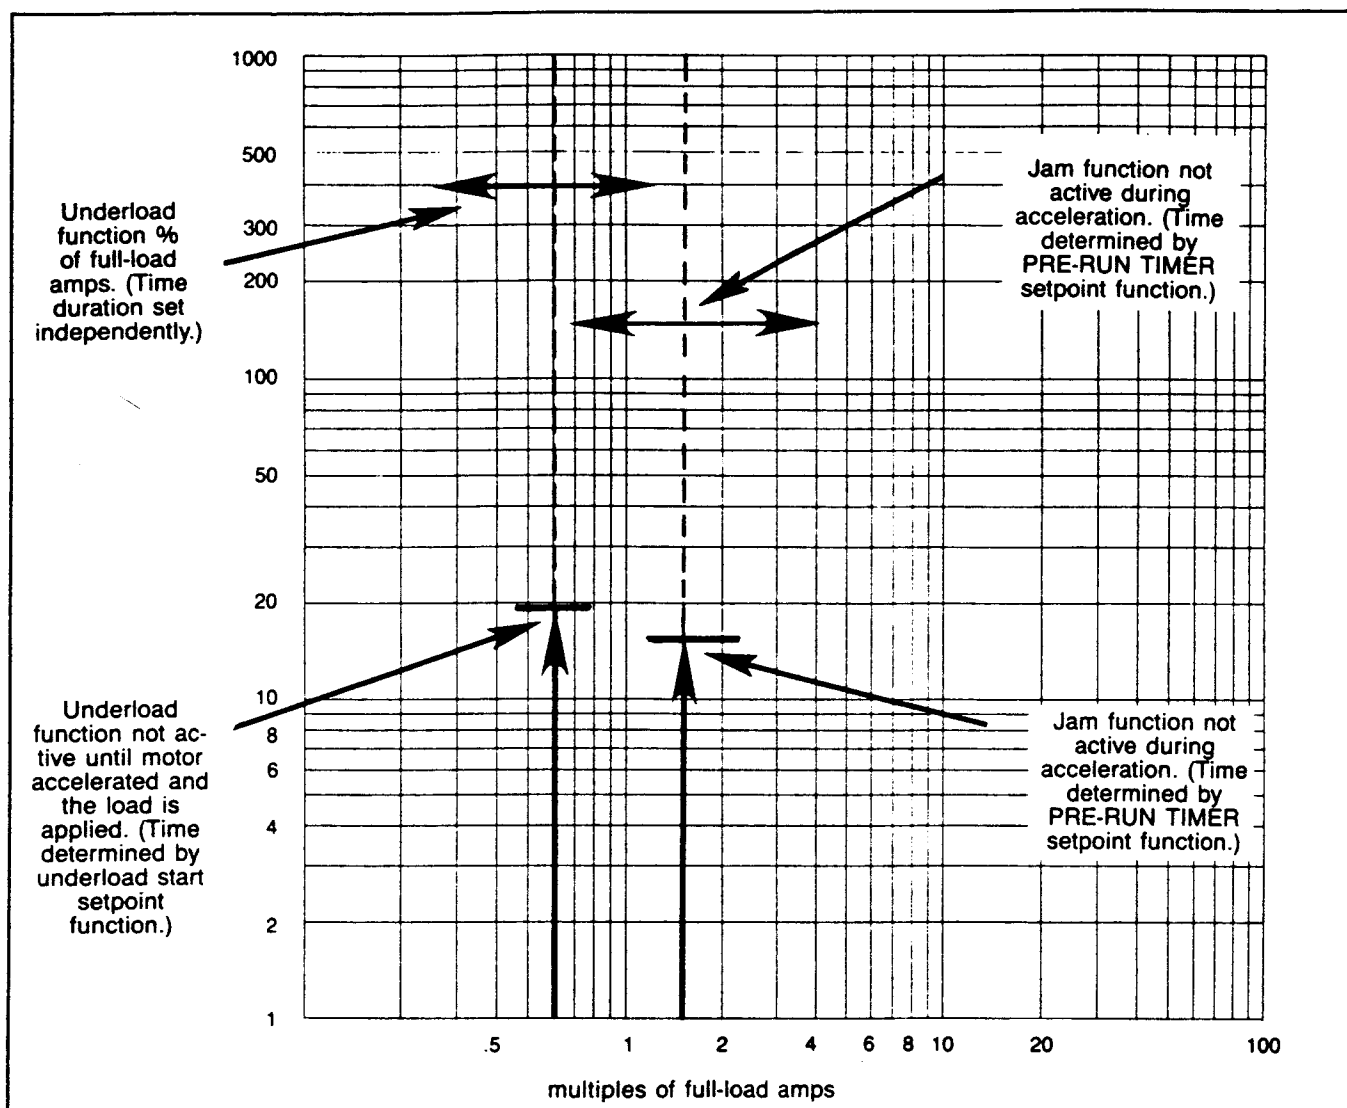

Figure 5.3 — Underload and Jam Protection
5.1.3.4 Underload Function — When the motor is running, a sudden reduction of current below a programmed value for a programmed time would indicate a malfunction in the driven equipment, and an underload trip would be activated. (Refer to Figure 5.3.)
5.1.3.5 Jam Function — Once the motor is running, if an instantaneous current exceeds a programmed value for a programmed time, a trip will occur. (See Figure 5.3 where the jam setpoint is set for 180% of full-load current.) When the Resistance Temperature Detection Option is applied, this jam protection is desirable with gear train and other mechanical type loads where an overload or physical jam could cause damage. The jam function is not active during acceleration; this permits locked-rotor current during acceleration.